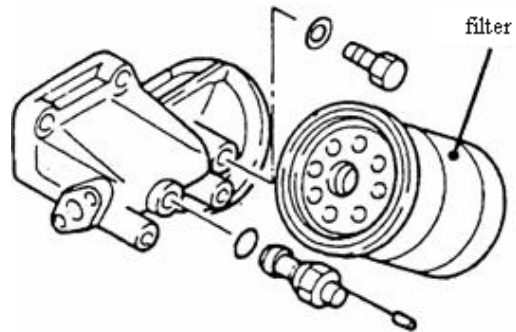

Fig.1.8 Oil filter
1.6.3 Replacement of oil filter (Fig.1.8)
The ancillary radiator as Fig.1.8, when the antifreeze under the “LOW” scale, it means need to add coolant, add to the 2/3 scale of the up and down scale.